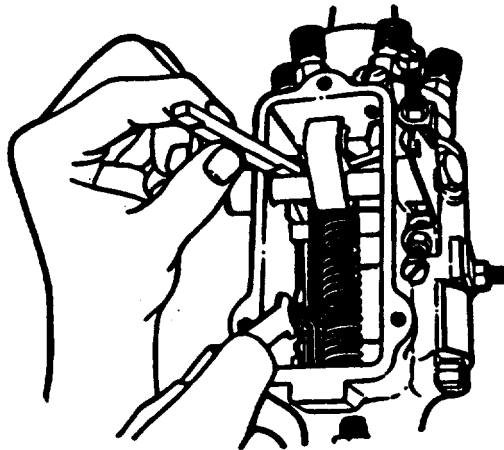

FIGURE 3-85. Checking Clearance at Linkage Hook
- cc. With throttle lever (19) held in wide open position, use linkage gage (18914) to check clearance between rear of shutoff shaft (30) and vertical tab on linkage hook (46), refer to FIGURE 3-85. Clearance should be 0.125 to 0.145 inch (3.175 to 3.683 mm). Adjustment of this clearance is made using a 1/4 inch wrench to change effective length of linkage hook.